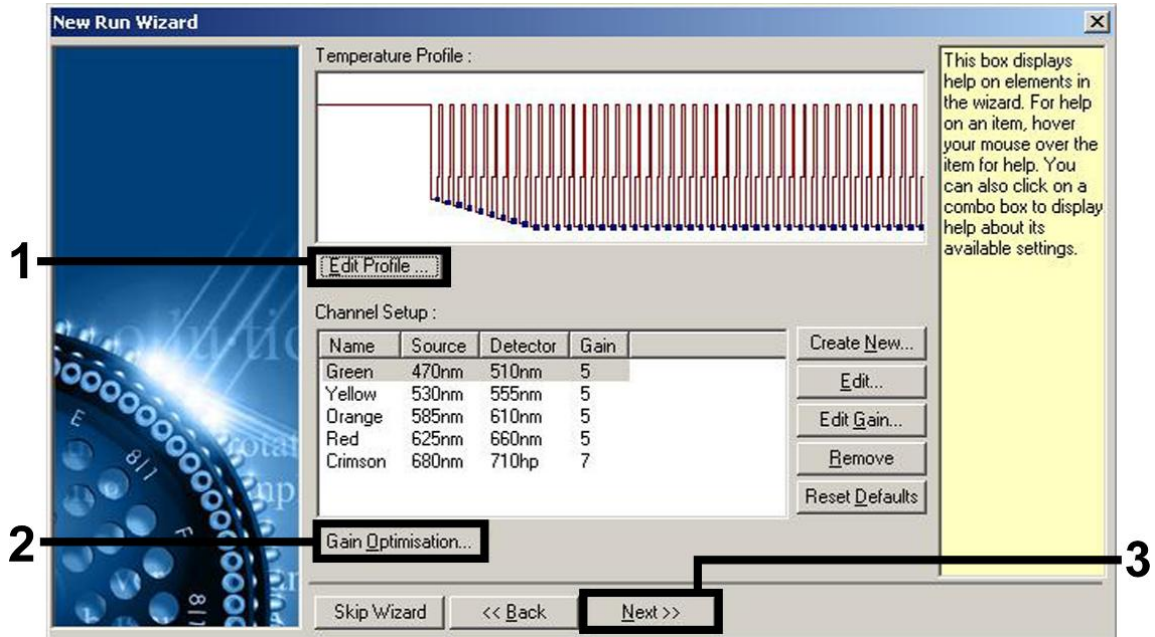

Figure 3. Editing the profile.
- Click the "Edit Profile" button in the next "New Run Wizard" dialog box (Figure 3), and program the temperature profile as shown in Figures 3–5).
9. The detection range of the fluorescence channels has to be determined according to the fluorescence intensities in the PCR tubes. Click "Gain Optimisation" in the "New Run Wizard" dialog box (see Figure 3) to open the "Auto-Gain Optimisation Setup" dialog box. Set the calibration temperature to 65 to match the annealing temperature of the amplification program (Figure 6).